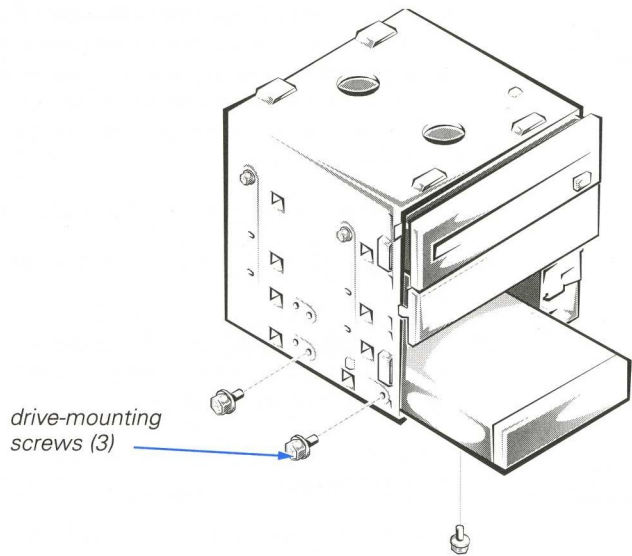

**Figure 3-10. Installing a Drive in the Lower 3.5-Inch Drive Bay (Mini Tower Chassis Only)**
5. Slide the new drive into the drive bay. Secure it to the drive cage, as shown in Figure 3-10, with one screw on the bottom and two screws on the left side.